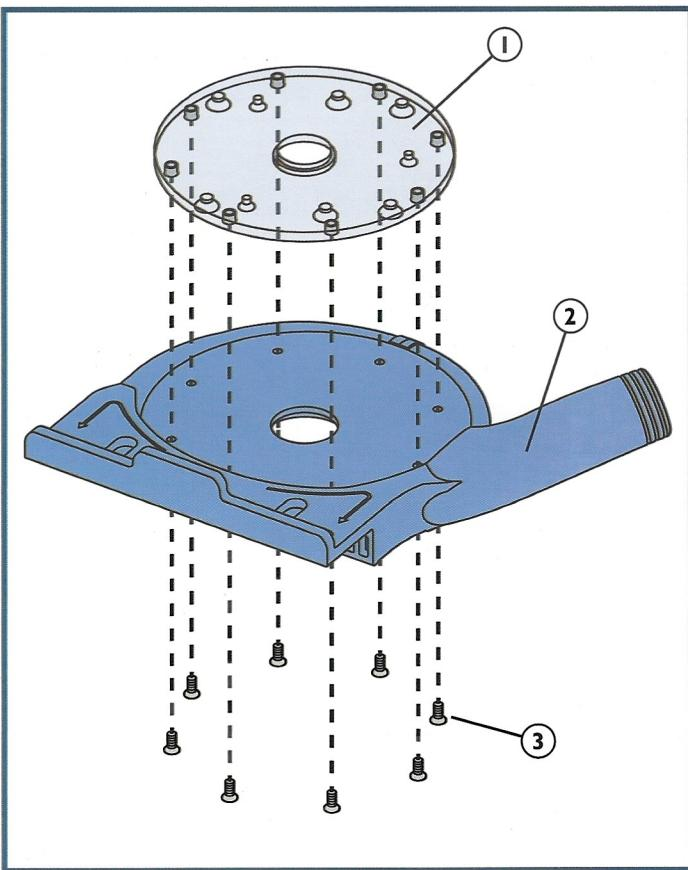

Fig. 1
- If the Router Plate (1) is attached to the Jig Base (2), loosen and remove the eight #10-24 x 7/16" Flathead Screws (3) holding the two together from under the Jig Base. **Fig. 1.**
- Find the hole pattern in the Router Plate (1) that matches the mounting holes on your router and align your router with the Plate. Use the appropriate set of included Router Mounting Screws (14-18) or, if none of those work, the screws you removed in Step 2 to attach the Router Plate to your router. Make sure that the screw heads do not sit proud of the plate surface.